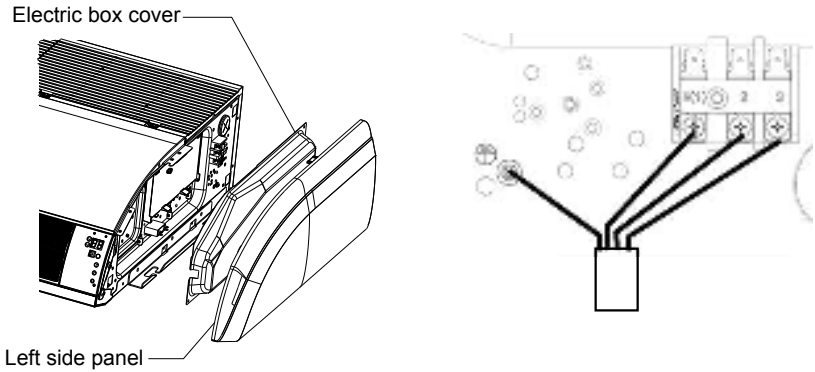

Fig. 28
| ③. | Connect the indoor unit connection cord properly based on the corresponding marks as shown in Fig. 28. |